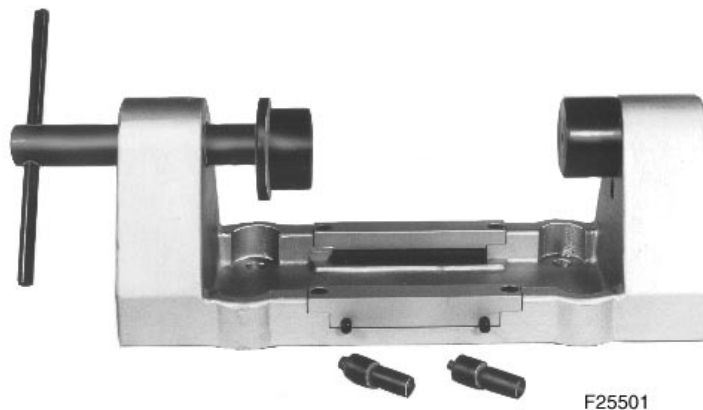

Figure 3-7. Typical Carrier Holding Fixture
2. Place rod and carrier in holding fixture, Figure 3-7., and remove piston pin bolts. This fixture has mandrel(s) which fits in the piston pin bore to hold the pin while the rod bolts are removed. It must be securely mounted on a work surface. If fixture is unavailable, a vise having copper protected jaws may be used to hold the connecting rod. Clamp rod horizontally with pin close to vise so pin bolts may be removed without twisting rod.